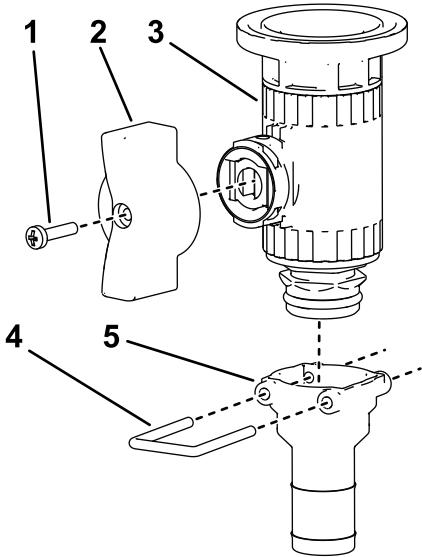

Figure 22
- 10. Assemble the green wing handle and straight fitting to the flanged control valve using the retainer as shown in Figure 22.